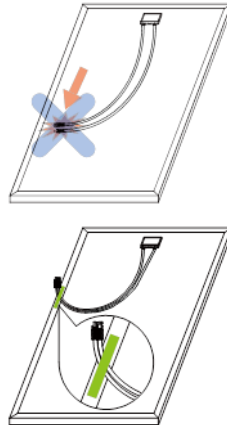

Figure 4. Fixing of cables and connectors
- The modules should be mounted basically at the four (4) quarter points by the means shown in Figure 1, and based on installation methods shown in Figure 4.
- To avoid the damage of the back sheet by the connector, fix the cables to the frame with tape after unpacking. (refer to Figure 4)